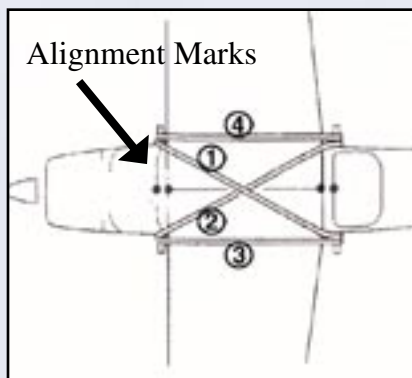

Figure 5 - Attaching the Main Wing
- B. Find the four wing bands. Hook the first wing band over the left rear post on the fuselage, then run it diagonally across the wing and secure it to the right front post. Now repeat on the other side. Right rear post to left front post. Then run a third wing band from the left front to the left rear post and next run a band from right front to right rear. See **Figure 5**.